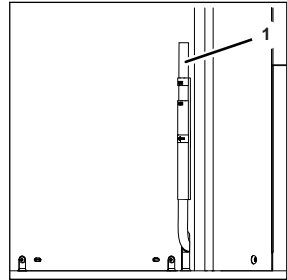

Figure 29
1. Pull the tube (Figure 29/1) of the water level gauge down through the mount.
2. Leave the tube (Figure 29/1) of the water level gauge in position until the water bath is empty.
3. Pull the tube (Figure 29/1) of the water level gauge up through the mount.